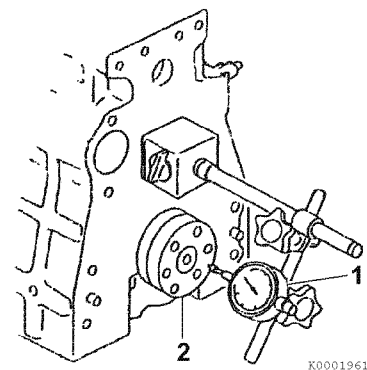

Figure 6-56
- **Method A:** Install a dial gauge (1, **Figure 6-56**) on the cylinder block. Move the crankshaft (2, **Figure 6-56**) in and out to measure the end play. Record the measurement.